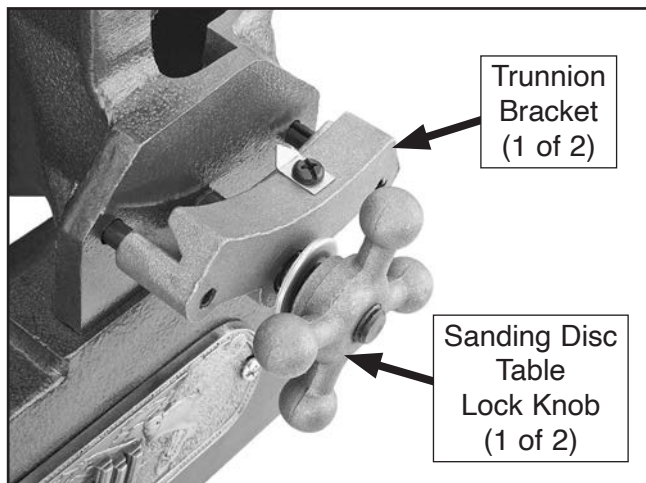

Figure 18. Example of trunnion bracket positioned to receive table trunnion.
8. Loosen (2) sanding disc table lock knobs, then move trunnion bracket away from lower disc guard (see **Figure 18**).